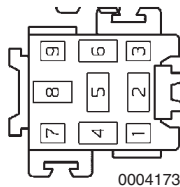

Figure 12-7
12 V is supplied directly to terminal 30 (**Figure 12-7, (4)**). An internal connection connects one end of the winding to terminal 30. When the key switch is turned ON, a 12 V signal is sent to ECU terminal 2/7. The ECU then completes the winding ground circuit (terminal 85) through ECU terminal 2/20.